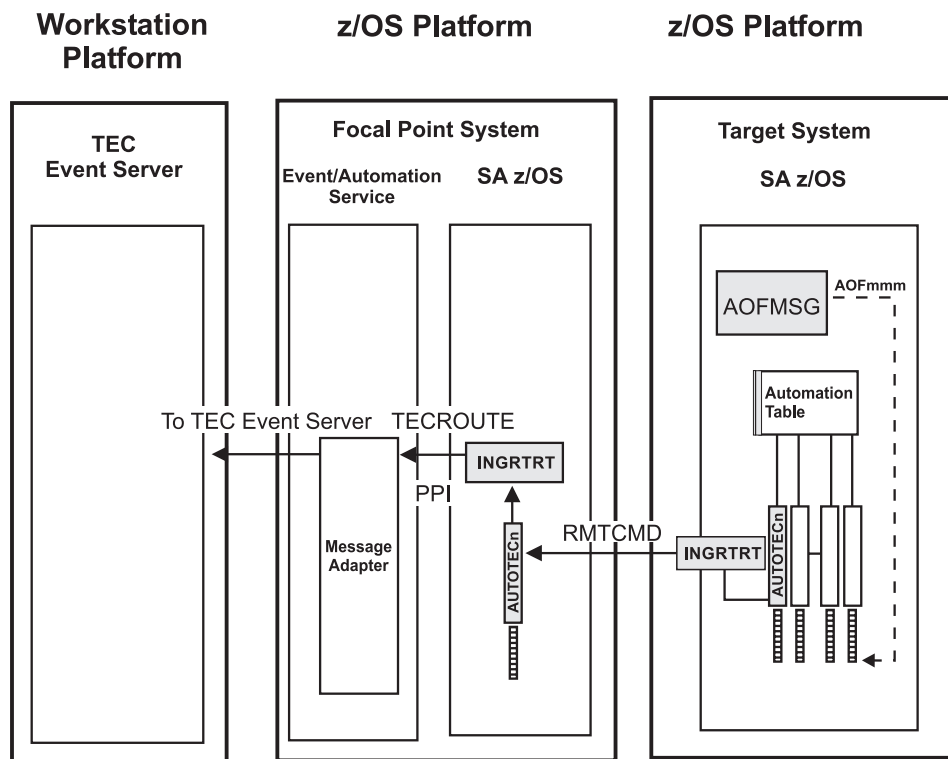

Figure 7. Distributed Configuration: NetView Event/Automation Service Remote to the SA z/OS Source of Messages
- *distributed configuration*: The message adapter or alert adapter is running on an z/OS system different from the one on which SA z/OS is running and issuing messages and alerts. In this scenario, the z/OS system running the adapters must be the SA z/OS automation focal point system. Such a configuration for message forwarding is illustrated in Figure 7 on page 57.